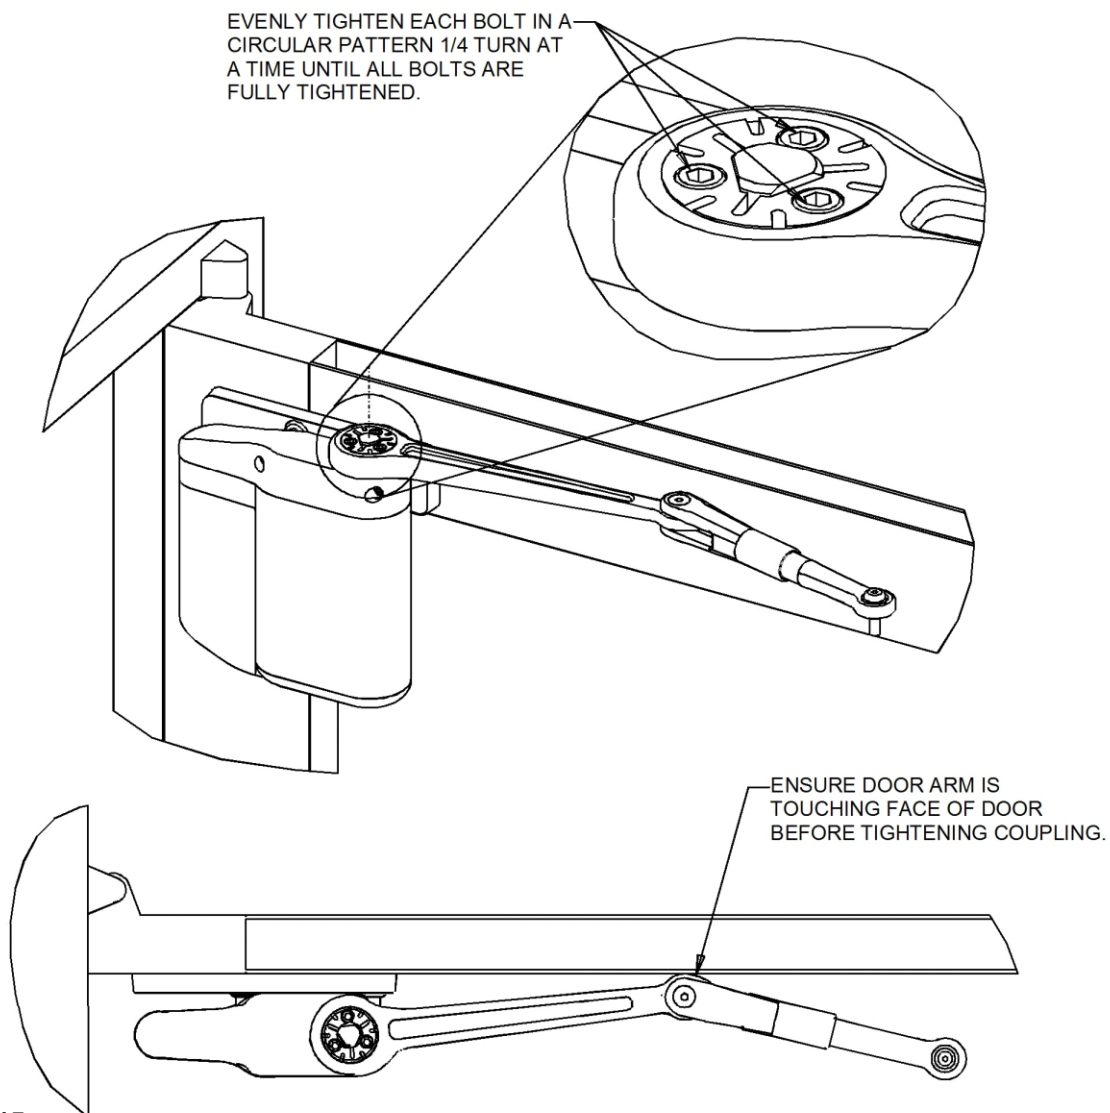

Figure 15
1. Refer to Figure 15, and, with the door arm coupling screws facing up and the door arm against the door rail, POSITION the larger end of the door arm onto the operator output shaft.